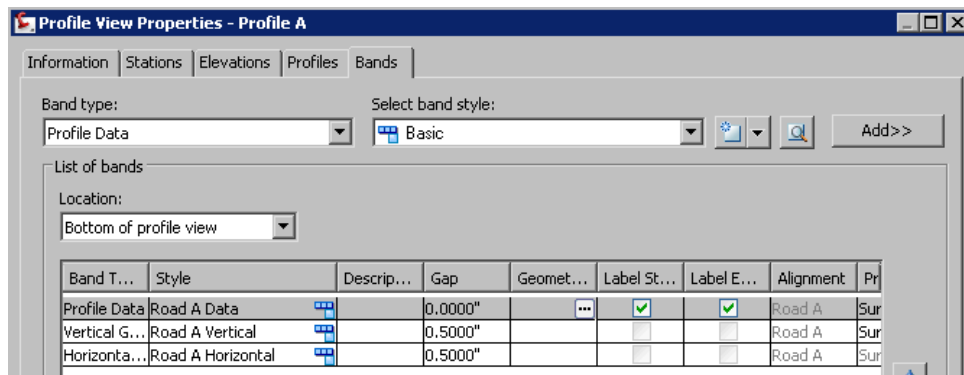

Figure 6-74 Partial view of the **Bands** tab of the **Band Set - Road A Band Set** dialog box
9. Similarly, add **Vertical Geometry**, **Horizontal Geometry**, and their respective styles to the table, as shown in Figure 6-74.